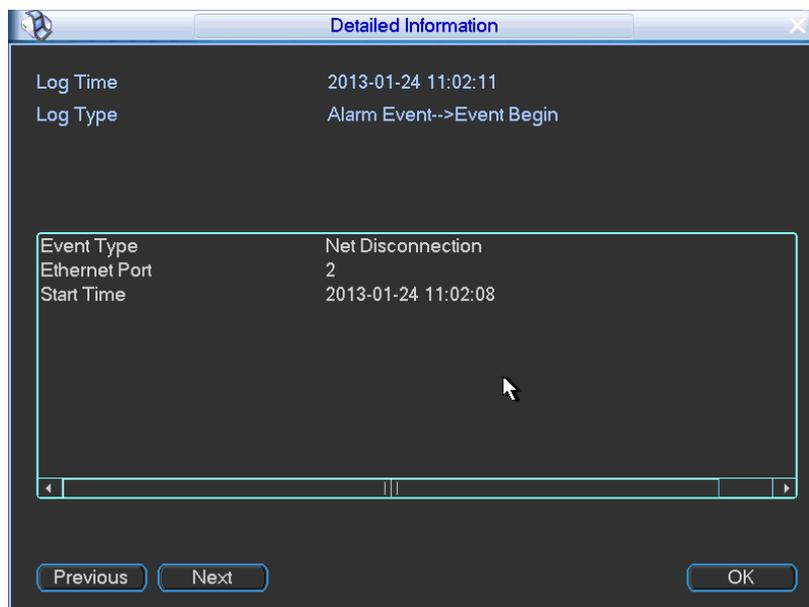

Figure 4-46
- Details: Click the Details button or double click the log item, you can view the detailed information. See Figure 4-46. Here you can use rolling bar to view information, or you can use Page up/Page down to view other log information.